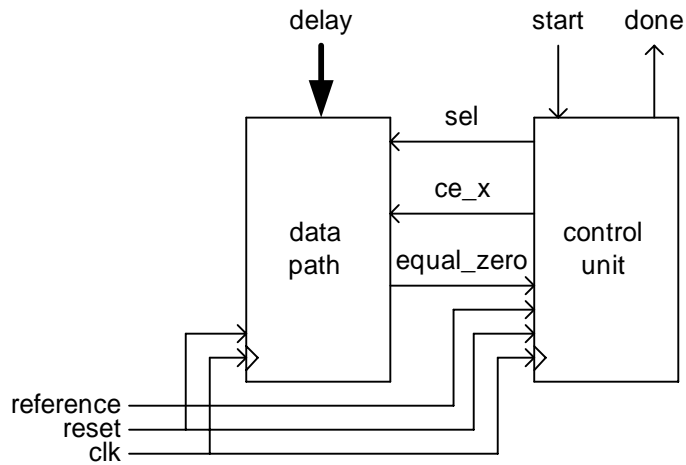

Figure 5 Timer
3.5 Generate a VHDL model of the timer. For that purpose, use the data path and the control unit as components (figure 5).